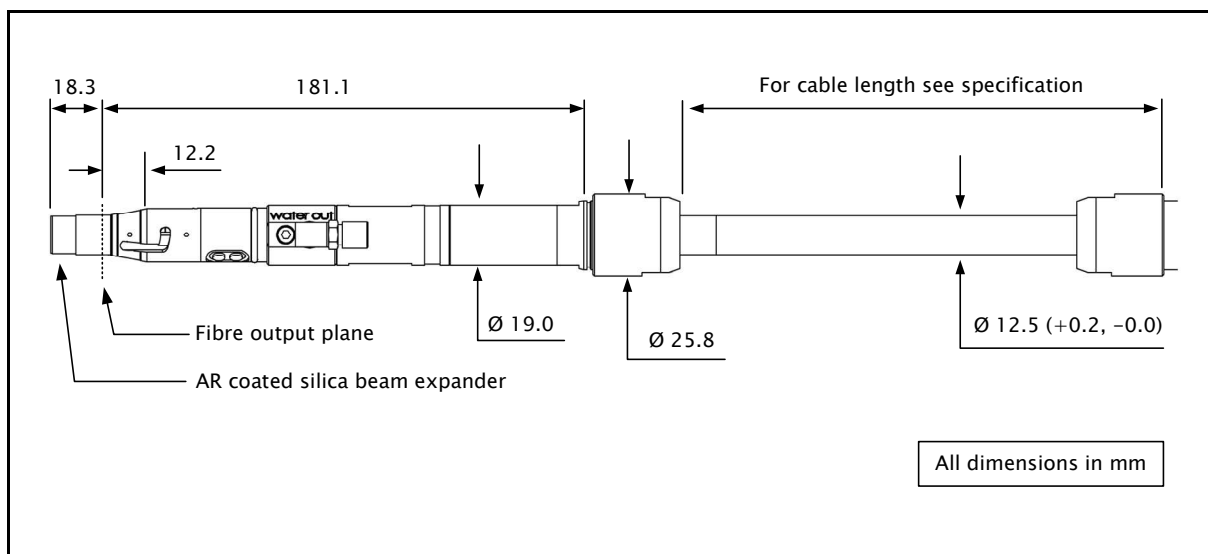

Figure 11.2.4: Outline Drawing – QBH Beam Delivery Optic
(1) Refer to table 3.1.1 for fibre type definitions
(2) The XY positioning accuracy of the fibre with respect to the mechanical housing
(3) Optical fibre end position is defined in Figure 11.2.4